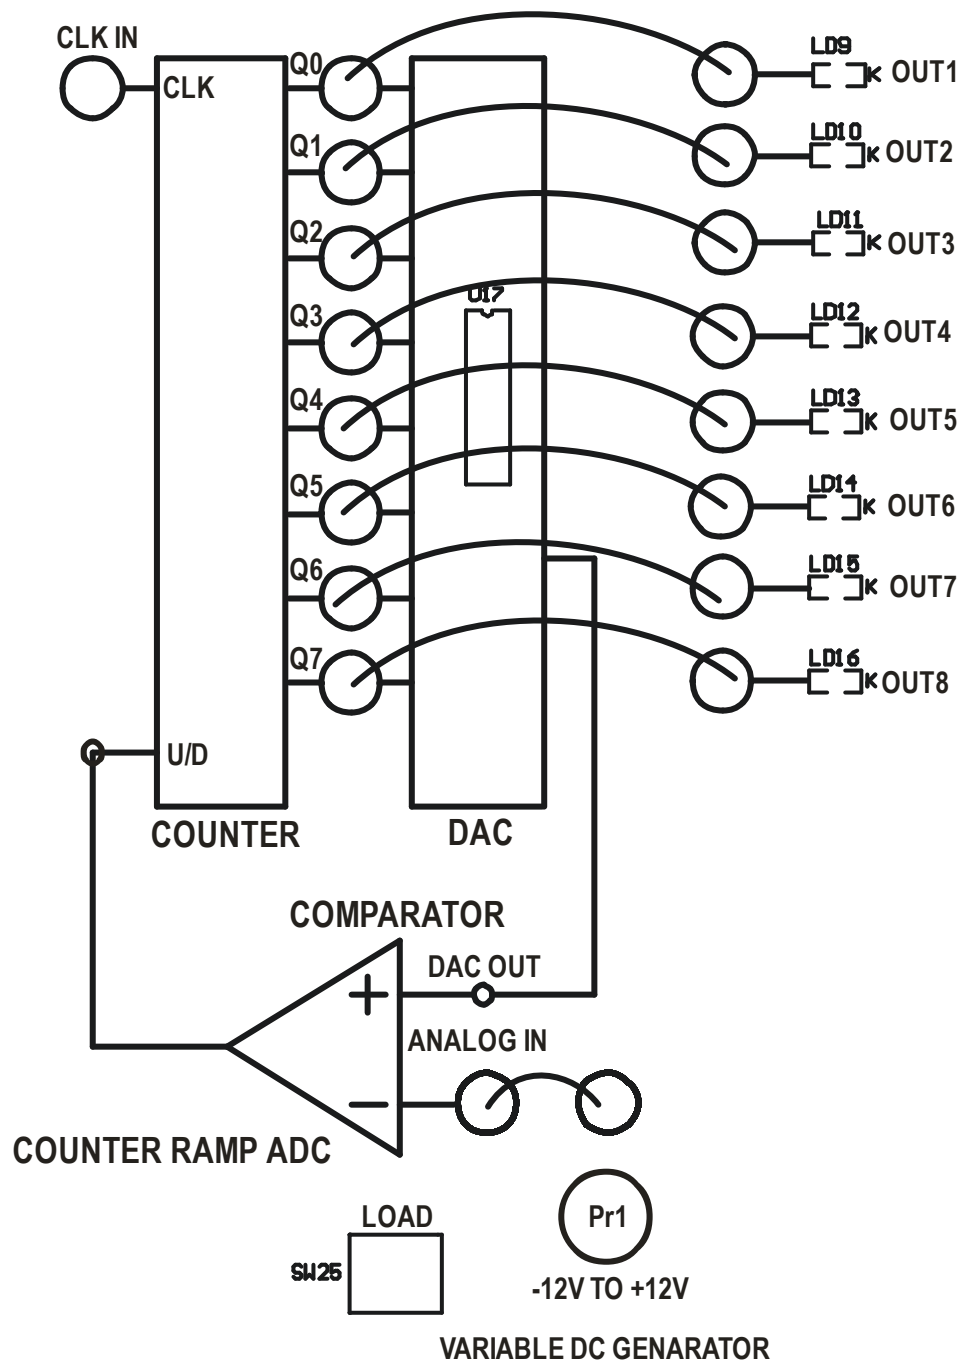

FIGURE-4.2
1. Make the connections as shown in the FIGURE-4.2